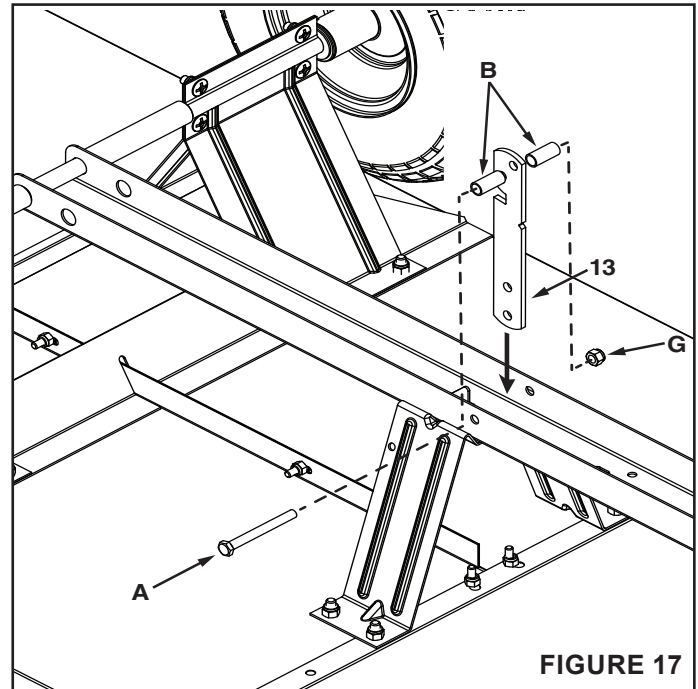

FIGURE 17
STEP 17: (SEE FIGURE 17)
- Install the latch lock bracket (13) by inserting a 5/16" x 3" hex bolt (A) through one side of the 5/8" axle tongue (15), a spacer (B), the latch lock bracket (13) a spacer (B), the other side of the 5/8" axle tongue (15), and a 5/16" nylock nut (G) as shown in figure 17.
- Tighten hardware but make sure the latch lock bracket (13) is able to move.